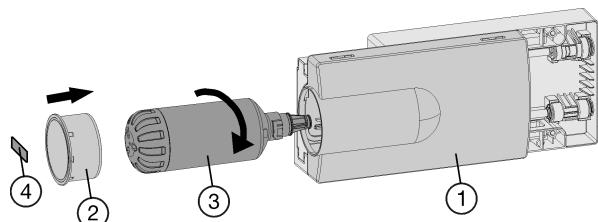

Fig. 49
- ▶ Insert the water filter Fig. 49 (3) and turn it approximately 100° clockwise until it locks into position.
- ▶ Slide the tray Fig. 49 (1) in.
- ▶ Place the cover Fig. 49 (2) on the filter.
- ▶ Write the date of the next filter replacement on the supplied adhesive label Fig. 49 (4) and affix it to the module.